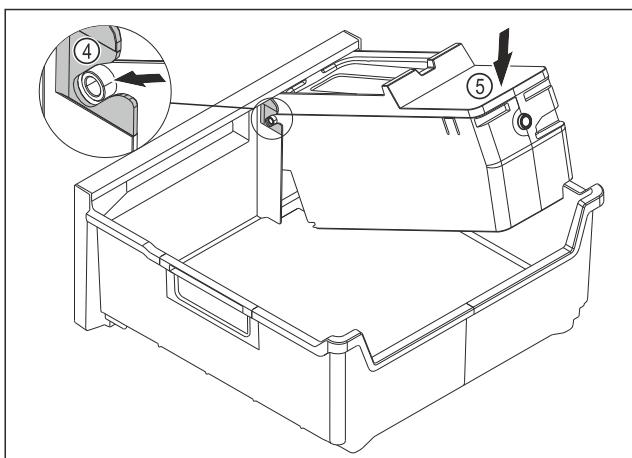

Fig. 128
- Installing the EasyTwist-Ice body: Push the axes for the EasyTwist-Ice body into the guides Fig. 128 (4).
- Press the EasyTwist-Ice body Fig. 128 (5) down at the back.